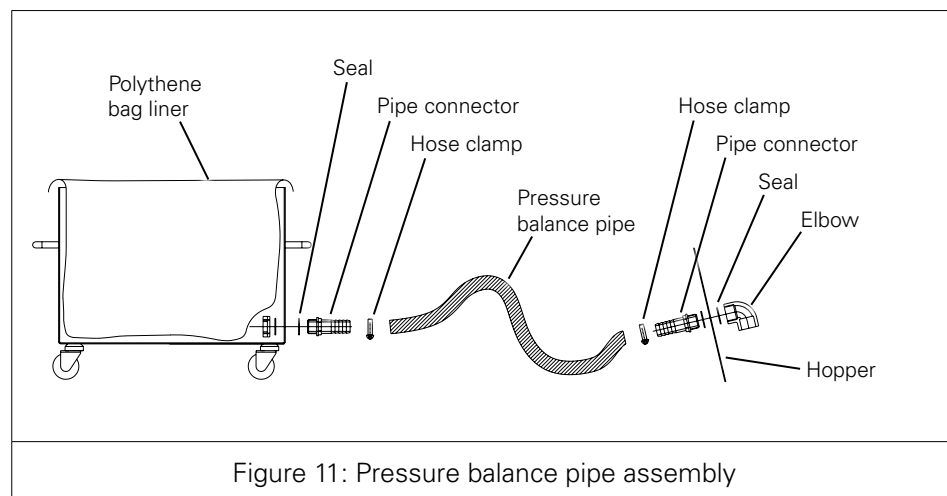

Figure 11: Pressure balance pipe assembly
3. If supplied, assemble the pressure balance pipe according to figure 11.